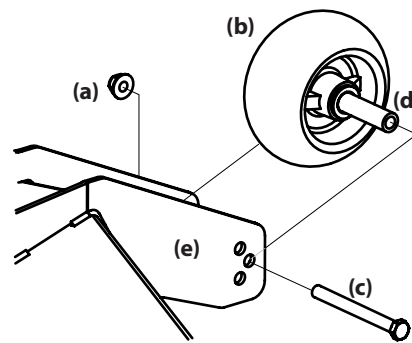

Figure 38
2. Remove the lock nut (a) securing one of the front gauge wheels (b) to the deck. Remove the front gauge wheel (b), hex screw (c) and spacer (d). See Figure 38.